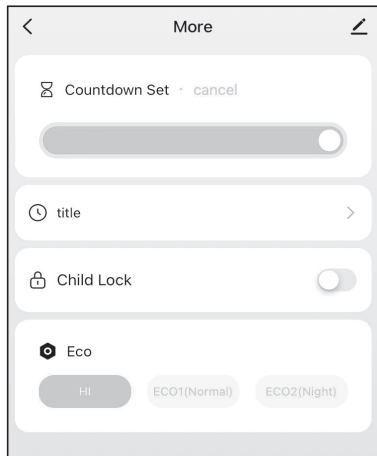
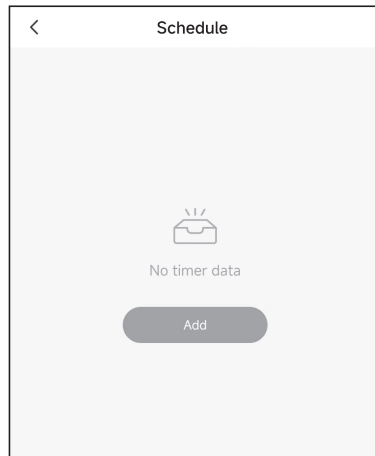
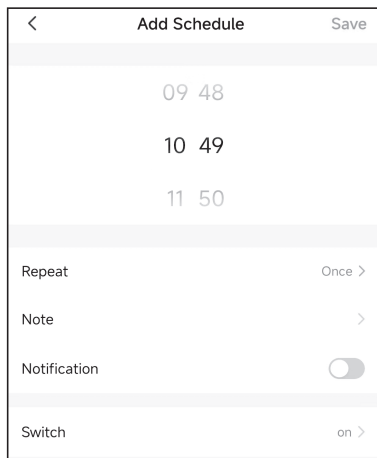
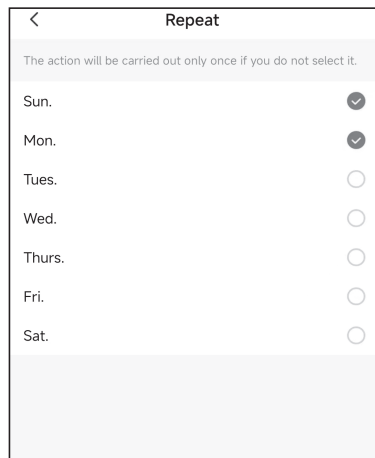

Figure10 More
Figure11 Schedule
Figure12 Adjust time
Figure13 Repeat every week
- 1) Countdown: Drag the countdown dot to select the shutdown time, as shown in Figure 10.
- 2) Timer function: Click timer on the interface of Figure 10, add timer (Figure 11), and scroll up and down to adjust the time of power on/off (Figure 12), select scheduled Power On/Scheduled Power off in "Switch", and set the days of the week to repeat this timer in "Repeat".(Figure 13).
- 3) Child lock: Open the "child lock" and lock the settings to prevent children from being naughty/misoperated, as shown in Figure 10.